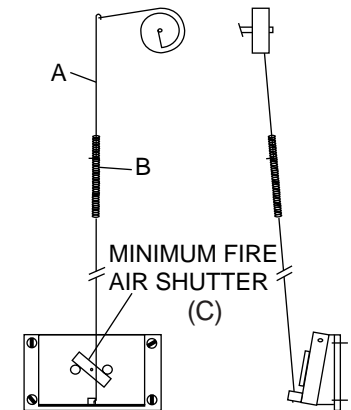

Fig. 9
The burning rate at the low setting can be further adjusted by opening or closing the minimum fire air shutter (Fig. 9) on the draft control door.
- A. To increase the amount of heat at a "HIGH" setting, adjust the wire linkage to increase the draft damper opening (Fig. 9).